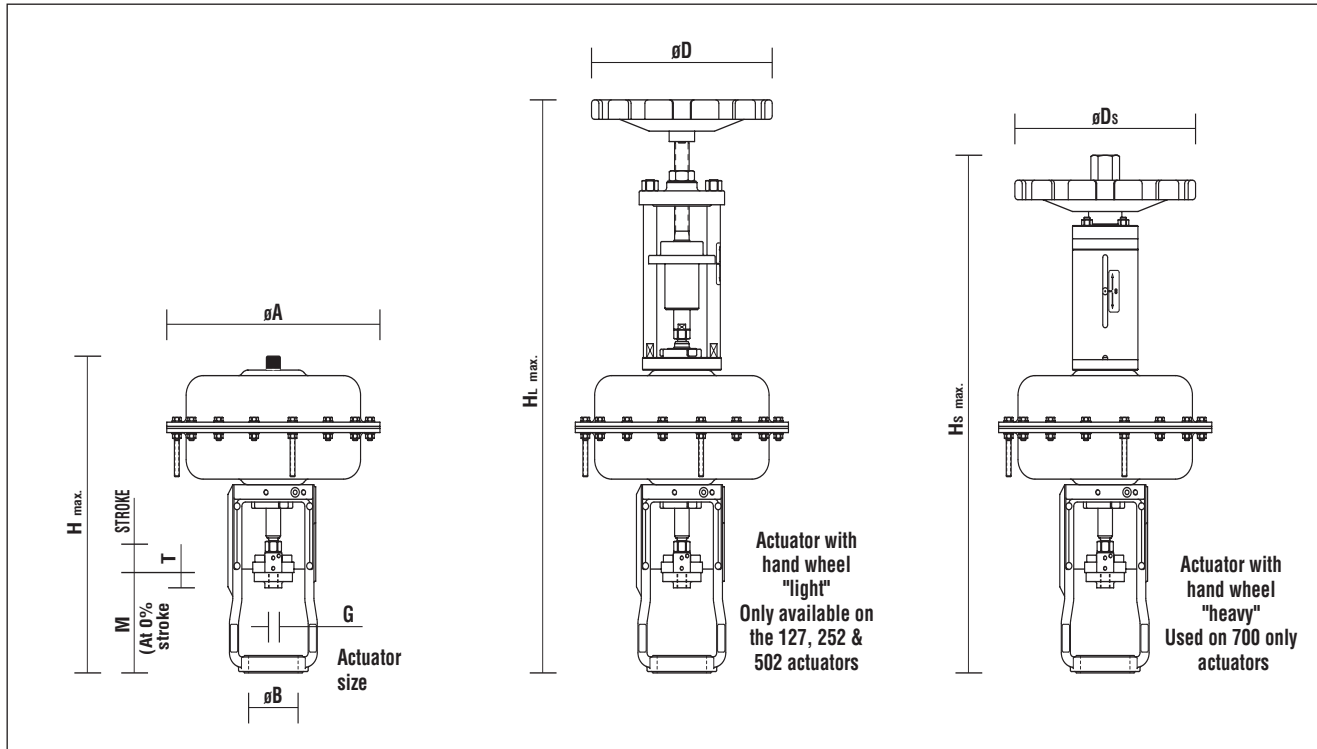

Figure 24: Single-seat Trim
**Electro-pneumatic:** Beta and XL Series positioners with an I/P can receive a 4 to 20 mA input signal which is converted into a pneumatic output signal. It is vibration resistant, reversible, intrinsically safe, explosion-proof, and easy to adjust. (Figure 24).